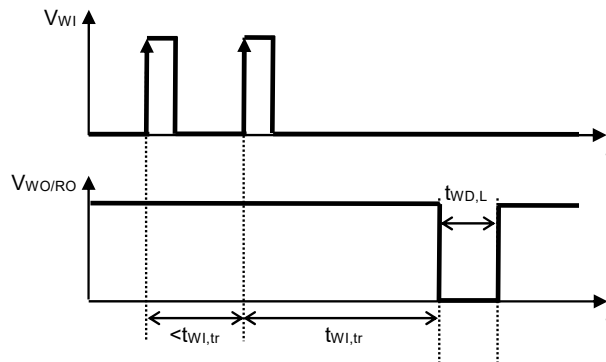

Figure 7 Watchdog Trigger Time
*1. The time when the WO / RO pin continues "L" after the watchdog timer detects a time-out (Refer to **Figure 7**). This value changes according to C_{DLY} .
*2. The time from when the watchdog timer initiates the detection of a trigger signal to when a time-out is detected and the WO / RO pin output changes to "L" (Refer to **Figure 7**). This value changes according to C_{DLY} .